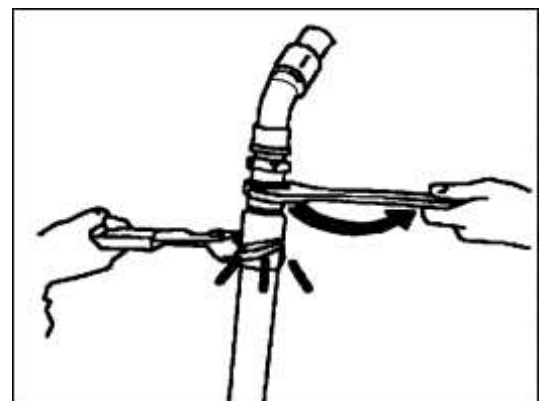

Fig. 3.12
**DURING THIS OPERATION, HOLD THE ENDS OF THE FLEXIBLE PIPE TO PREVENT IT FROM REMAINING TWISTED (Fig. 3.12)**